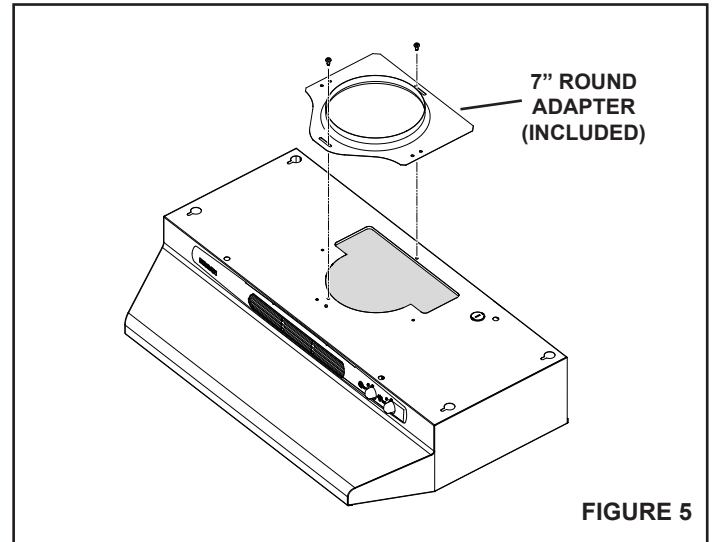

FIGURE 5
2. **For 7" round discharge installation, refer to FIGURE 5.** Secure 7" adapter (included) to top of hood using screws provided. Install 7" round damper (Model BP87 (97010792), purchased separately).